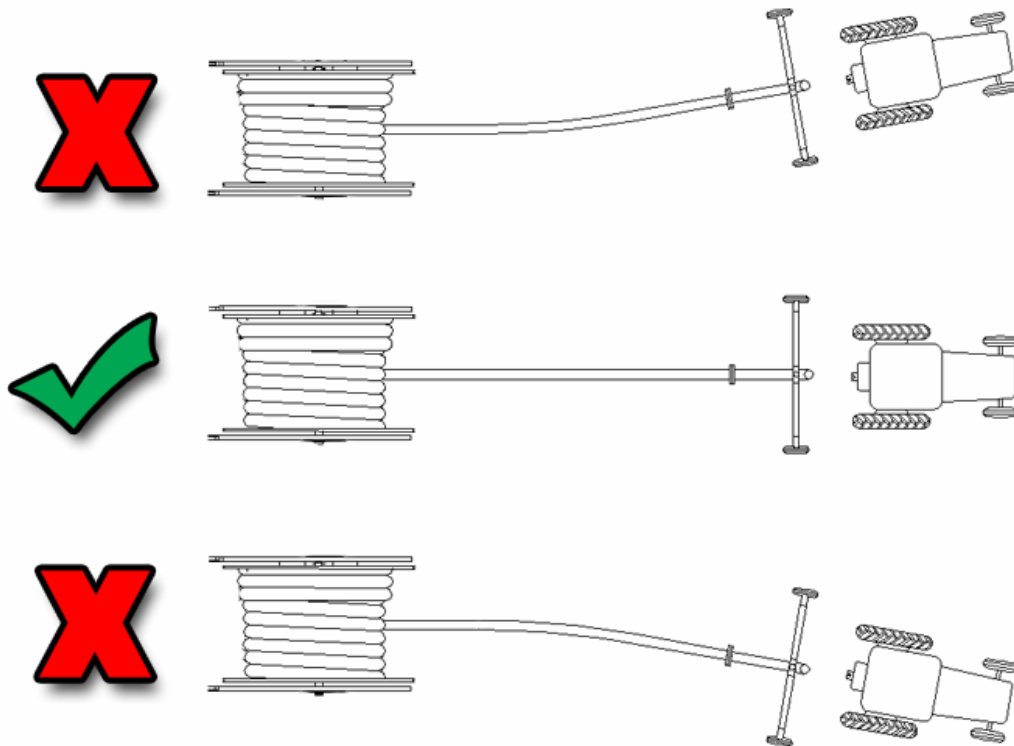

Figure 16 - Pull Out Hose Straight
Tow the gun cart to the start point of irrigation. Always leave as a minimum one (1) wrap of hose on the drum. When pulling the hose out keep it straight. (See Figure 16 on page 21)